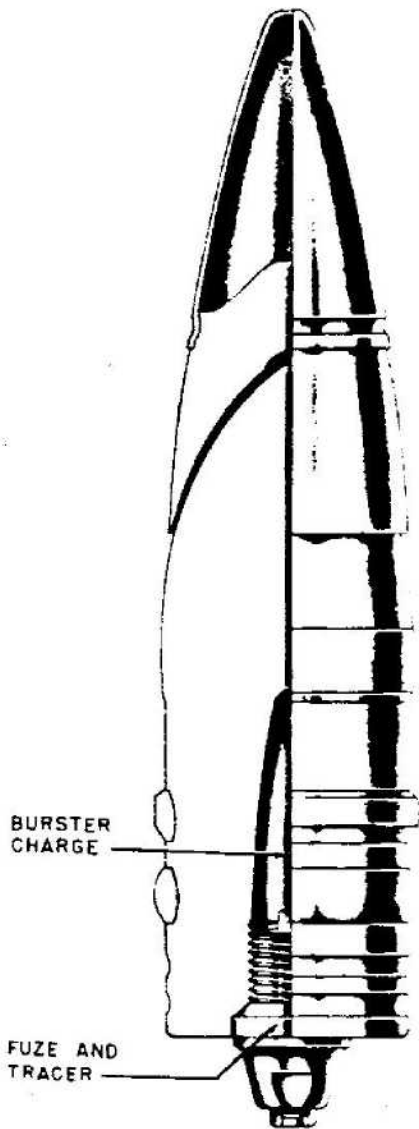

Figure 431—A. P. Projectile for 88-mm Gun, 8.8-cm Pzgr. 39/43
**GERMAN NOMENCLATURE:** 8.8-cm Pzgr. 39/43. (See fig. 431.)